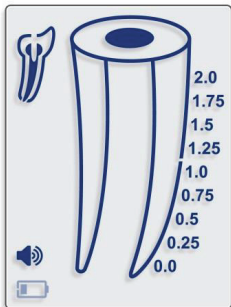

Fig. 2
7.2.2 When the battery level is low, the flashing Low Battery indicator will appear on the screen (Fig.2). RomiApex™ A-15 will continue normal operation even with a low battery, but the battery should be replaced before it loses all power.